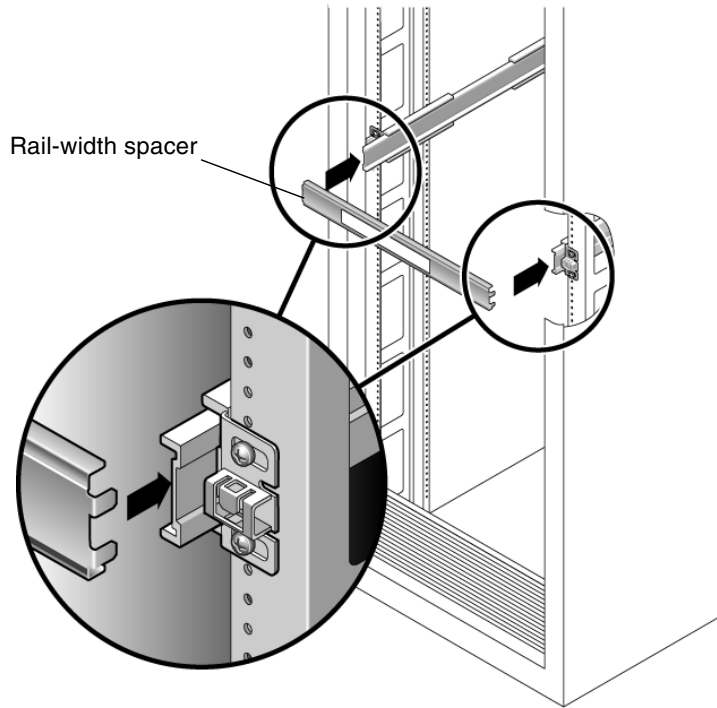

FIGURE C-4 Setting the Rail Width
4. From the front of the rack, set the proper width of the rails with the spacer. (See FIGURE C-4.)